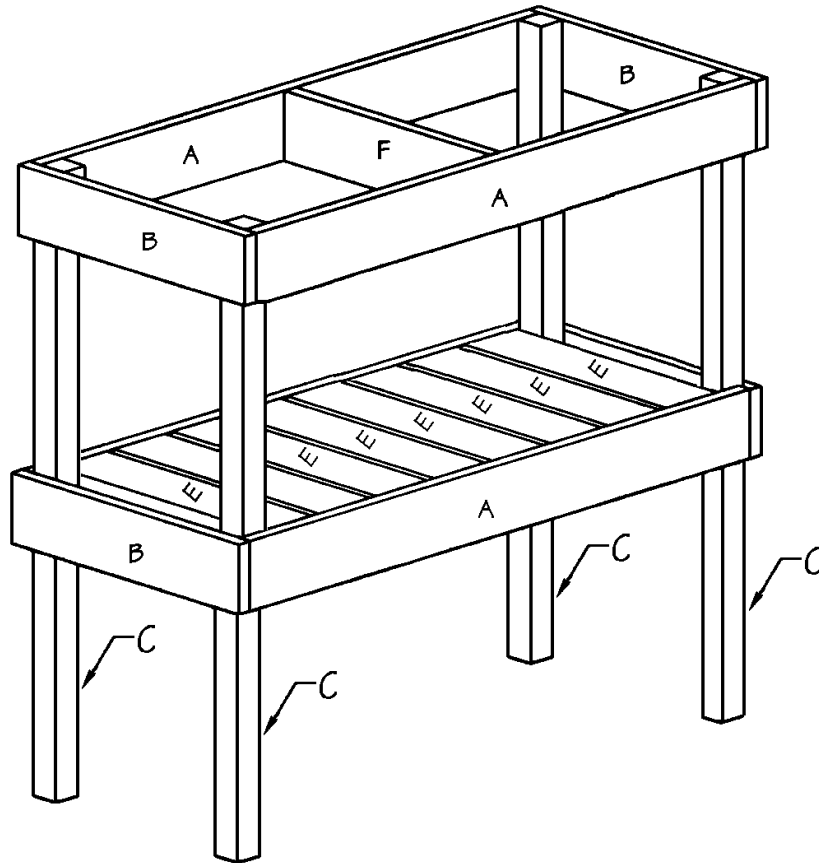

Figure 6
2. Place the Top Support (F) between the two Long Sides (A) on the “Top”, centered between the two Short Sides (B), as shown in *Figure 6*. Apply glue to the meeting surfaces and screw through the Long Sides (A) using two 1-5/8” wood screws on each joint.